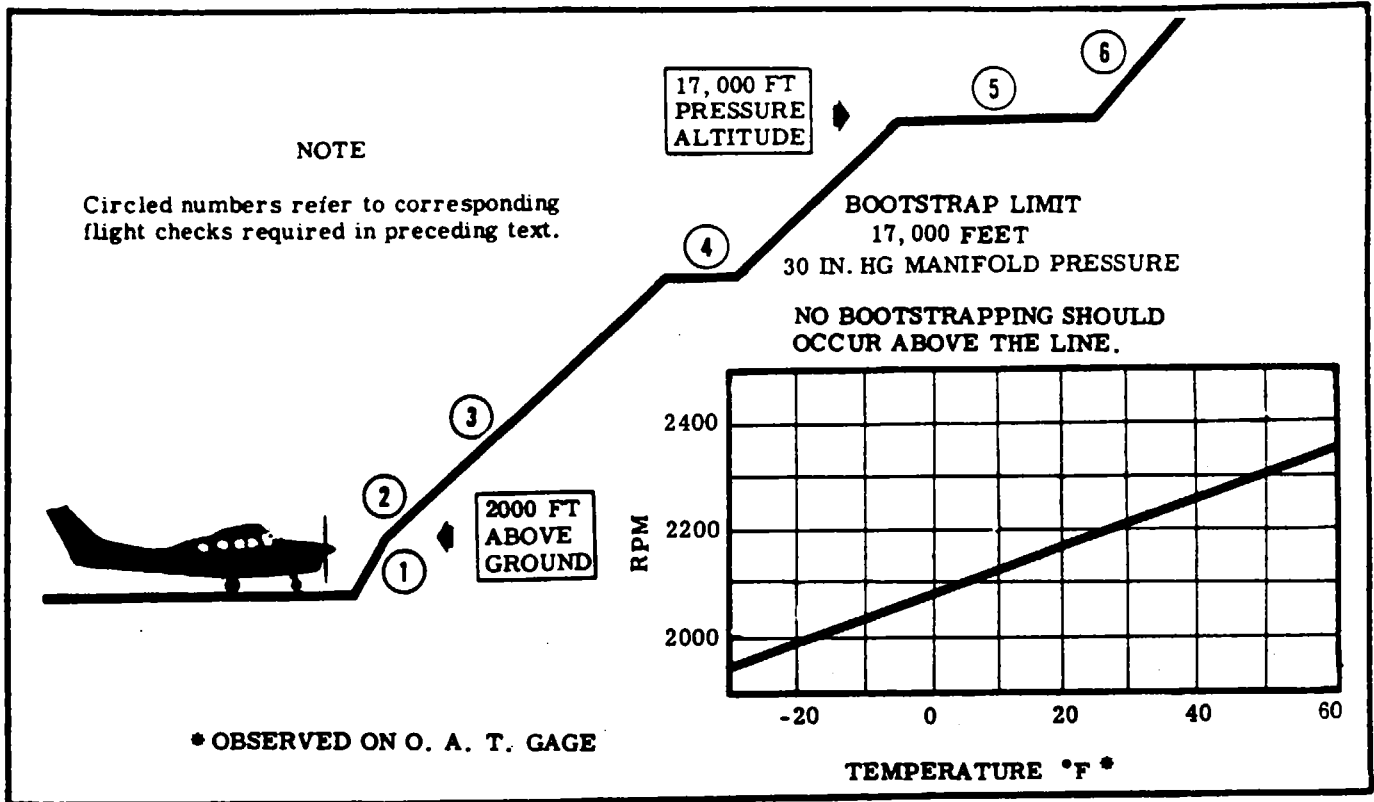

Figure 12-16. Operational Flight Check
- (2) Note outside air temperature and RPM as manifold pressure starts to drop, which should be in accordance with the chart in figure 12-16.
- (3) After noting temperature and RPM, increase engine speed 50 RPM to stabilize manifold pressure, with the wastegate modulating exhaust flow to control compressor output.
- (6) **MCP CLIMB - VARIABLE CONTROLLER AND TURBOCHARGER PERFORMANCE CHECK.**